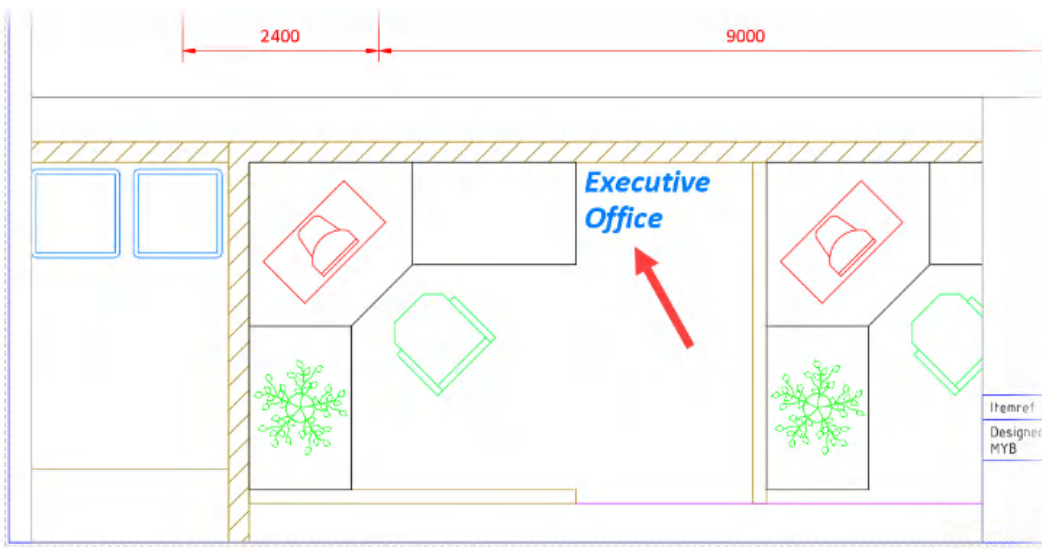

Figure 8.35: The ISO A3 layout tab with the annotative text object displayed
17. If you return to the **ISO A3** layout tab, you will see that the **Executive Office** text object is now only displayed in the **1:30** (lower) viewport, as shown in *Figure 8.35*.